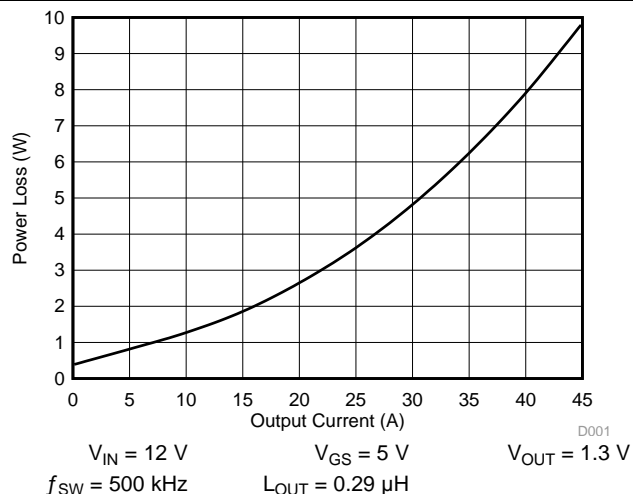
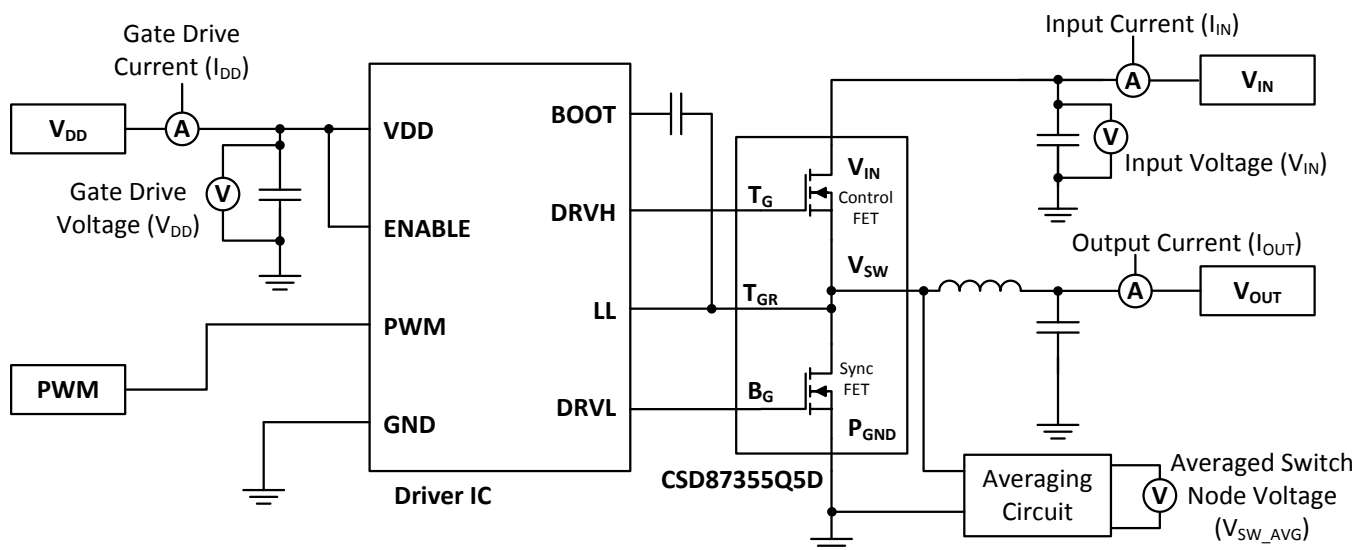

图 1. Power Loss vs Output Current
图 31.
MOSFET centric parameters such as $R_{DS(ON)}$ and Q_{gd} are needed to estimate the loss generated by the devices. In an effort to simplify the design process for engineers, Texas Instruments has provided measured power loss performance curves. 图 1 plots the power loss of the CSD87355Q5D as a function of load current. This curve is measured by configuring and running the CSD87355Q5D as it would be in the final application (see 图 31). The measured power loss is the CSD87355Q5D loss and consists of both input conversion loss and gate drive loss. 公式 1 is used to generate the power loss curve.
The power loss curve in 图 1 is measured at the maximum recommended junction temperatures of 125°C under isothermal test conditions.
- Power Loss at 25 A = 3.62 W (图 1)